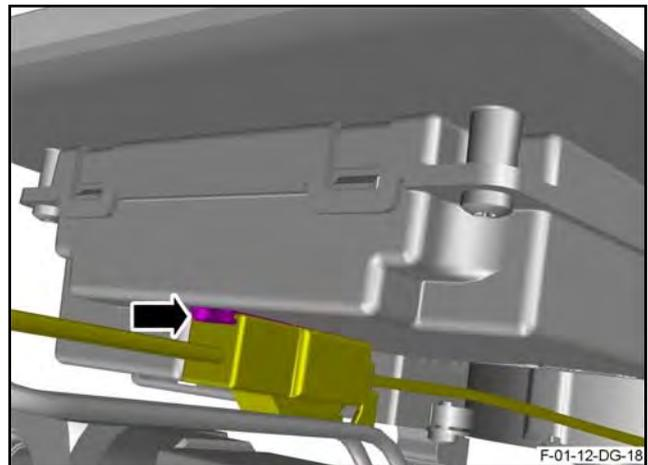

Figure 47
- 58. Release the electrical connector from the clip that attaches it to the centre console (refer to Figure 47).